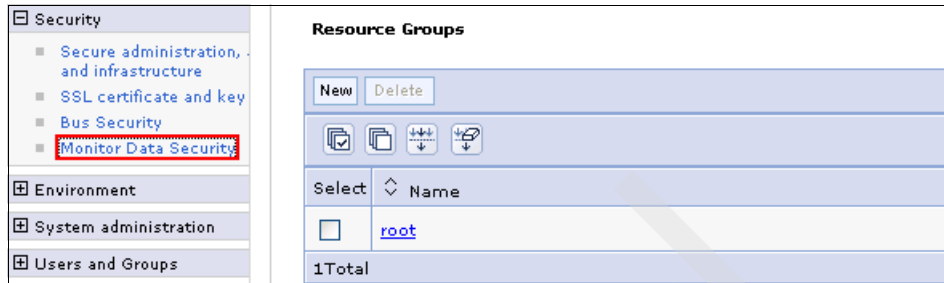

Figure A-55 Navigating to Monitor Data Security
1. In the WebSphere Business Monitor administration console, expand **Security** and click **Monitor Data Security**. In the right pane, click the **root** link (Figure A-55 on page 772).